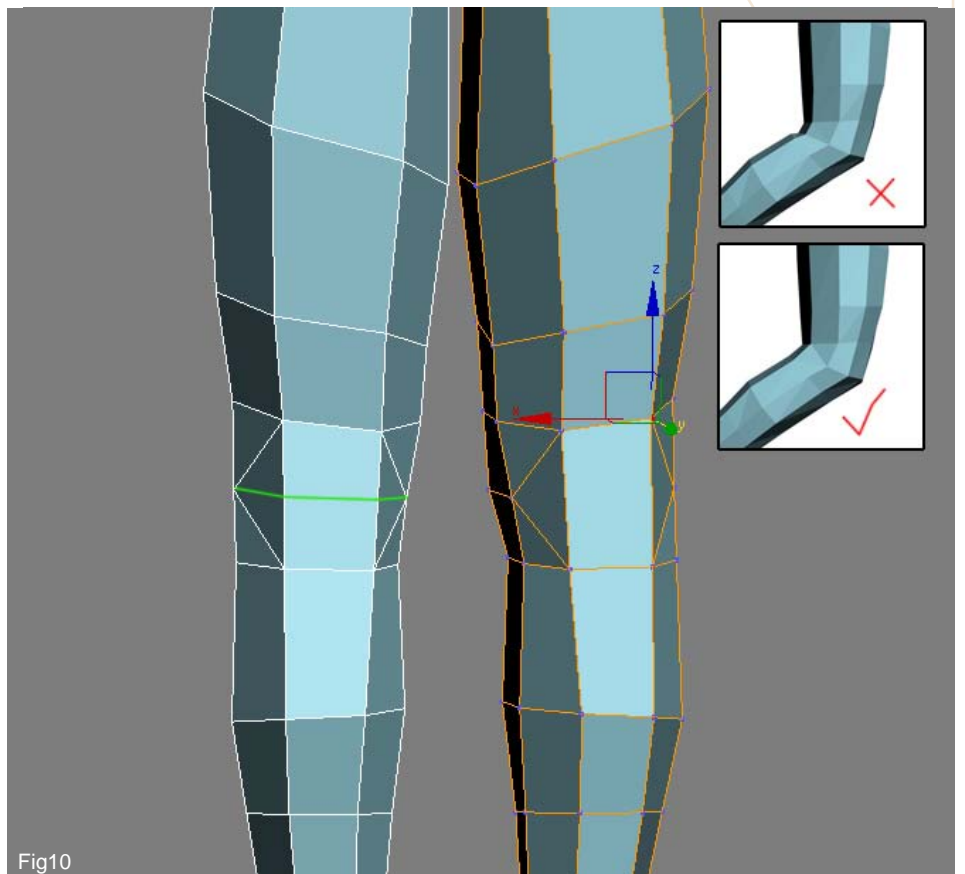

Fig10
10. We now have two complete legs and feet but there is one last thing to do before we move on to the arms. In order to get a better deformation around the knee area we are going to add in two new cuts which will help maintain a more consistent shape at the back of the leg when we bend the knee (assuming off course that we are going to attach a skeleton). You can see in Fig10 that I have made two diagonal cuts and when we attach a skeleton and bend the knee backwards you will notice in the two insets on the right that the lower one is more realistic as a result. The upper diagram shows a kink in the mesh and is due to a cut intersecting the bend (green line on the left leg). For this reason it is best to choose the configuration on the right and add in the two extra cuts.